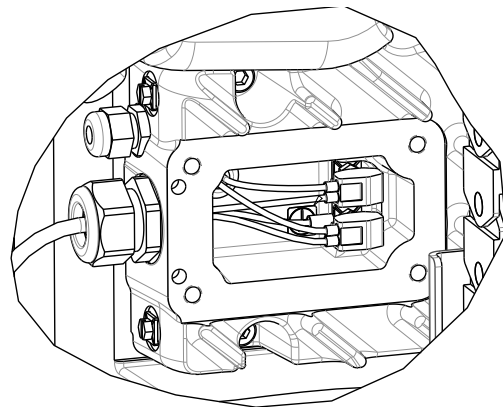

FIG. 39: Wires in Driver Housing
- a. If using a Single Ram Supply System, turn the red Disconnect Switch (AZ) OFF.
- b. If using a Tandem Ram Supply System, turn the red Disconnect Switch (AZ) OFF only on the Ram Supply Unit the Driver is being removed from.
4. Disconnect power from the Driver (AB):
- a. Remove the Driver housing cover (HC).
- b. Disconnect the wires inside the Driver housing. See FIG. 39.